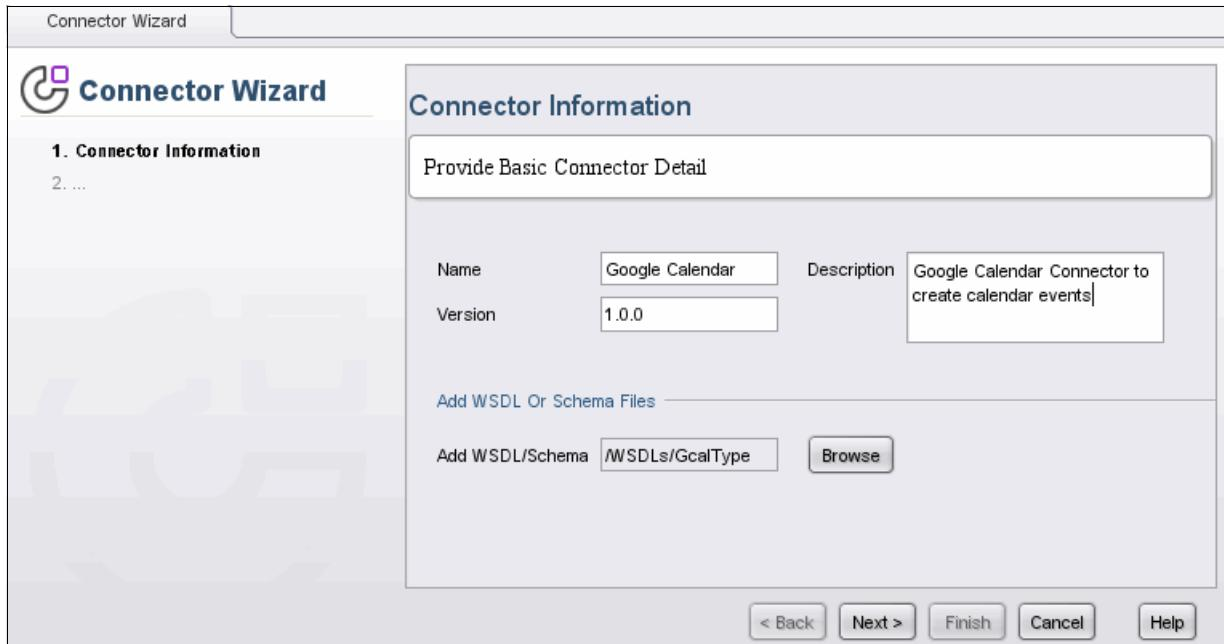

Figure 8-8 Google Calendar connectorInformation page
5. Enter the following connector details, as shown in Figure 8-8 on page 334:
To locate the imported files, click **Locate**, and then click **OK** (Figure 8-8).